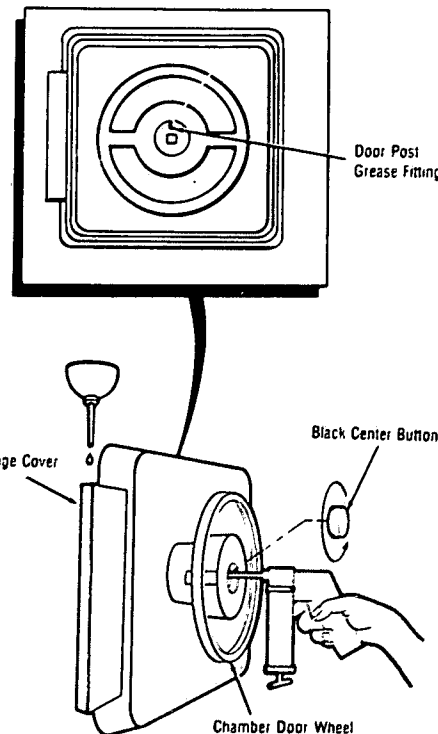

Figure 4-3. LUBRICATING CHAMBER DOOR.
1. See Figure 4-3. Unscrew the button in center of chamber door wheel to expose the door post grease fitting. Inject a high-temperature grease such as Neph-tune 7* (Mlgr: Ore-Lube Corp., College Point, N.Y. 11356) or one of equivalent quality into the fitting ... replace button.